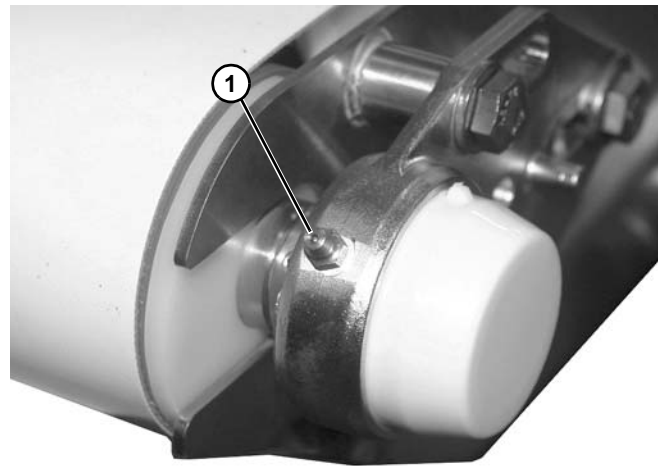

Figure 65
1. Add grease to the bearing using the zerk fitting (**Figure 65, item 1**) on the exterior of the bearing housing.